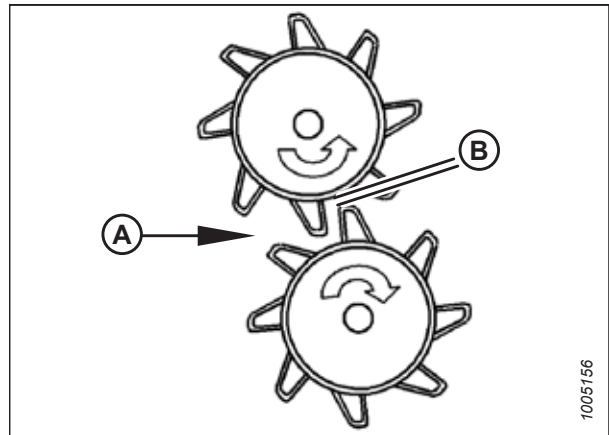

Figure 3.94: Roll Gap
- Refer to Figure 3.94, page 64: Ensure that roll gap (B) is 20 mm (3/4 in.).